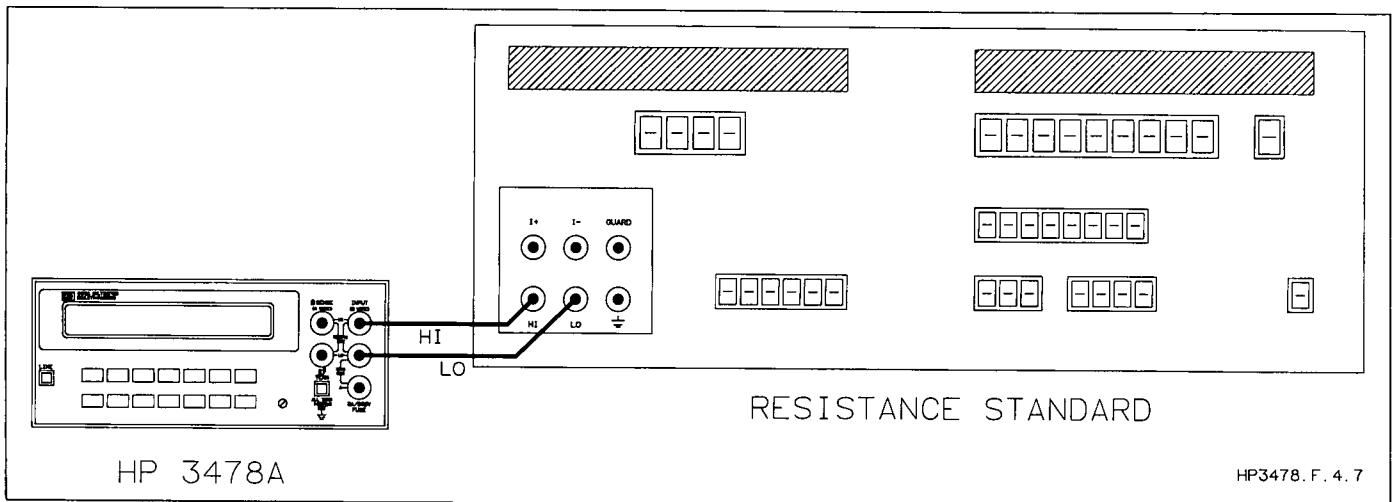
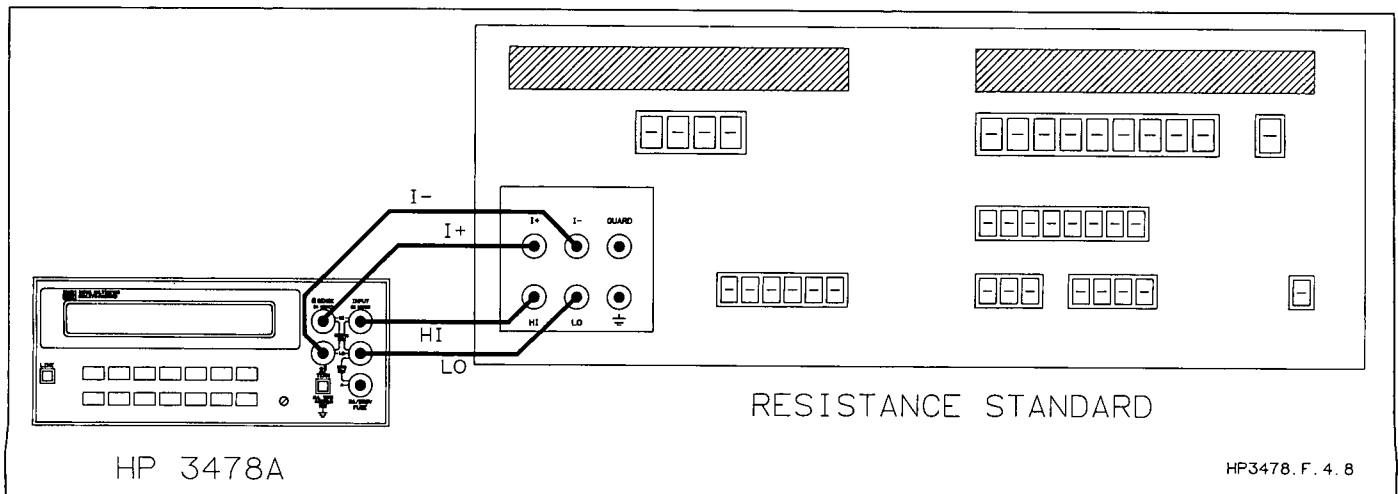

Figure 4-7. 2-Wire Ohms Test and Calibration Connections
Figure 4-8. 4-Wire Ohms Test and Calibration Connections
- 5) This Ohms Performance Test is written to support the recommended Resistance Standard. Figure 4-7 shows the test connections for 2-Wire ohms. Figure 4-8 shows the test connections for 4-Wire ohms.
d. (Step #9) Remove the short from the 3478A INPUT terminals. Set the 3478A to the 30Ω range. Connect the Resistance Standard to the 3478A INPUT terminals (using either the connection shown in Figure 4-7 or 4-8, as appropriate).
4-80. If the calibration is to be done in the 2-Wire Ohms function, the Resistance Standard is connected to the HI and LO INPUT terminals as shown in Figure 4-7. If the calibration is to be done in the 4-Wire Ohms function, the Resistance Standard must be connected to the HI and LO INPUT terminals and the HI and LO SENSE terminals as shown in Figure 4-8.